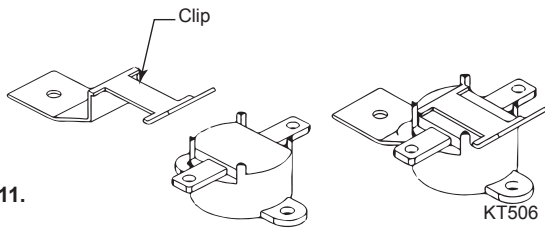

Figure 11.
1. Slide the thermal sensor into the clip until it snaps into place. Make sure the terminals on the thermal sensor are perpendicular to the clip. Figure 11
2. Run the two (2) hi-temp wires provided down the side of the firebox into the lower access compartment making sure wires do not touch side of the firebox.